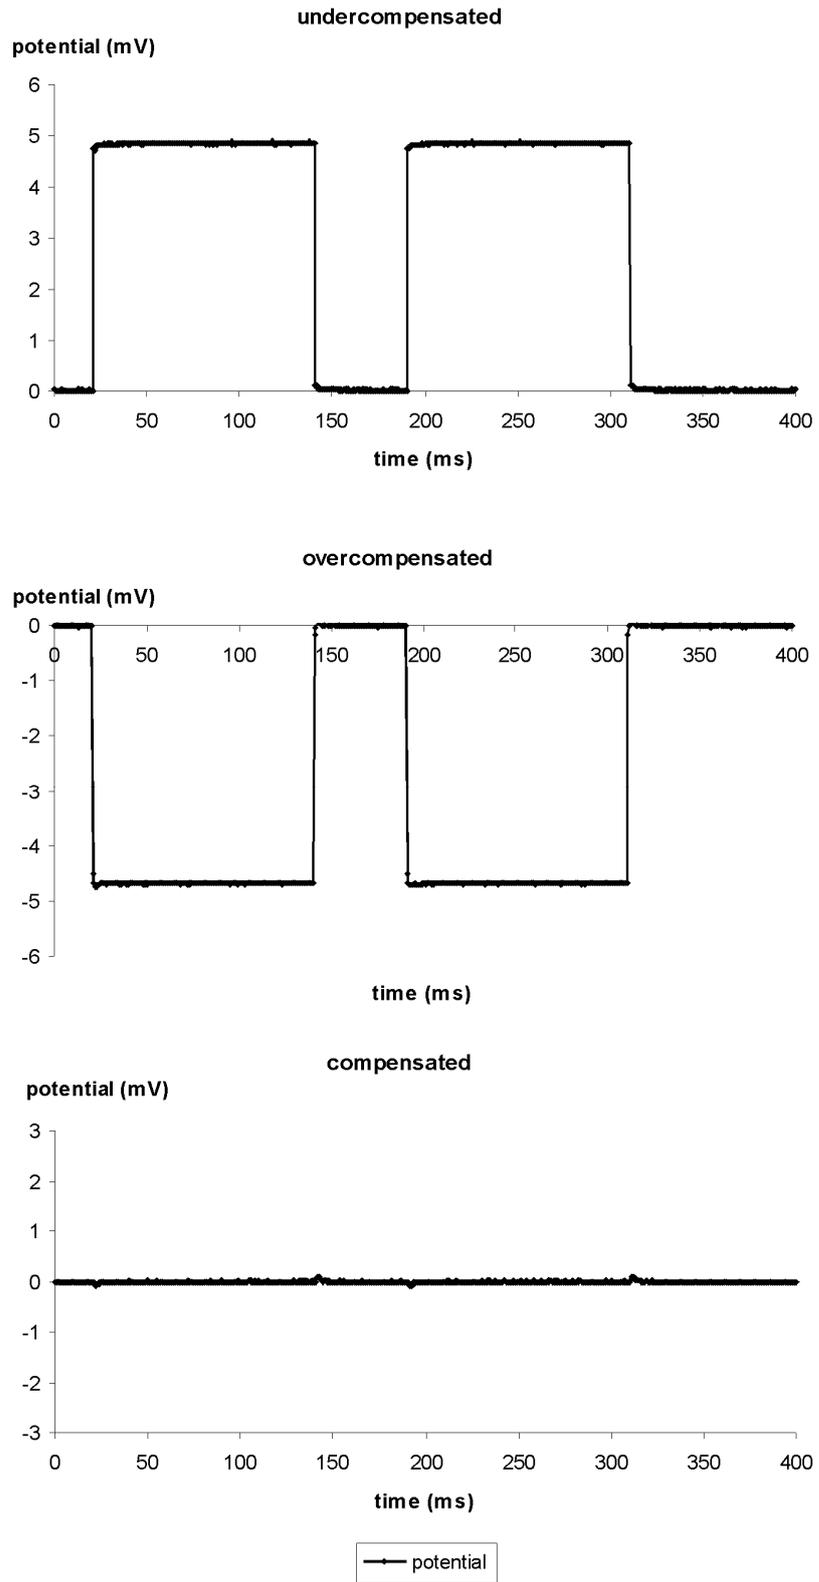

Figure 10: Tuning of the BRIDGE BALANCE using 100 MΩ resistor
With the cell model connected or the electrode in the bath the BRIDGE BALANCE control is turned on clockwise until there is no artifact on the POTENTIAL OUTPUT (see Figure 10).
- Watch the POTENTIAL OUTPUT at the oscilloscope and adjust the BRIDGE BALANCE as shown in Figure 10 using the BRIDGE BALANCE potentiometer (#21, Figure 1). After adjustment you should see a straight voltage trace without artifacts caused by the potential drop at R_{EL} .
Figure 10 illustrates the BRIDGE BALANCE procedure using a $100 M\Omega$ resistor that represents the electrode. The current stimuli were generated using the gated stimulus unit gated by two TTL pulses. The amplitude was set to $0.5 nA$. In the upper diagram the bridge is slightly undercompensated and in the diagram in the middle it is slightly overcompensated. The lower diagram shows a well balanced bridge (compensated).